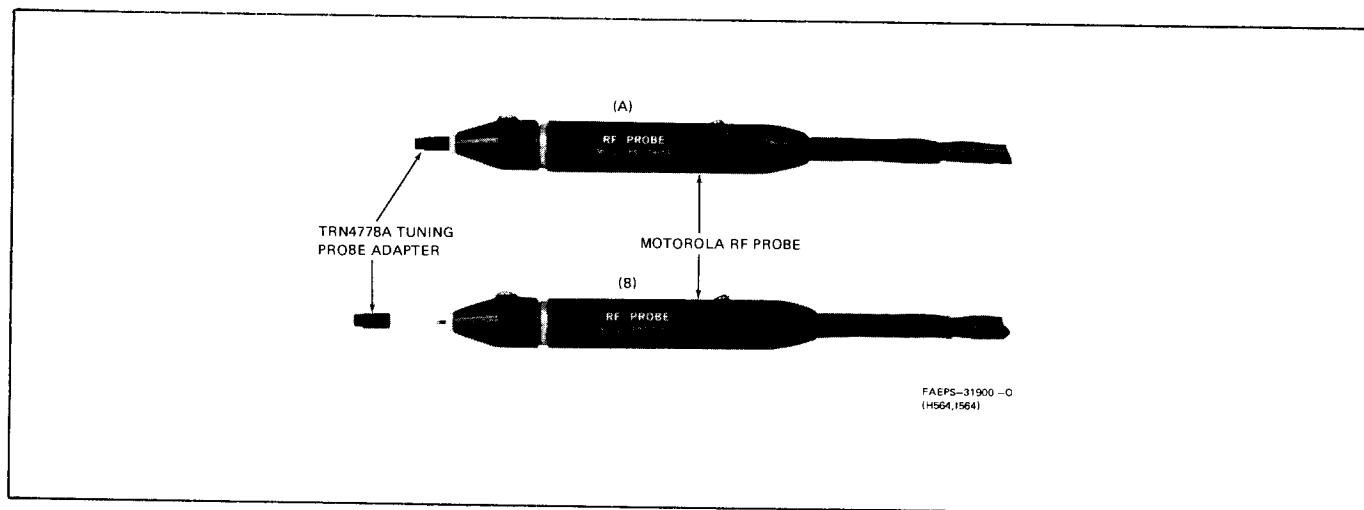

Figure 5. DVP MCX100 Alignment Probe
Step 9. Press the tuning probe adapter (Motorola No. TRN4778A) onto the probe of the rf voltmeter as shown in Figure 5.